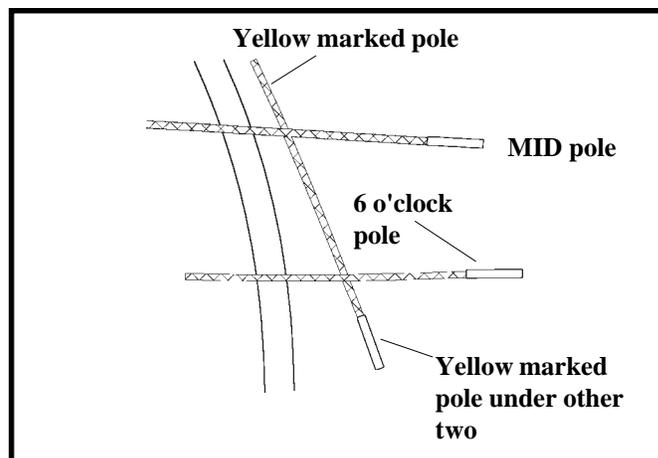
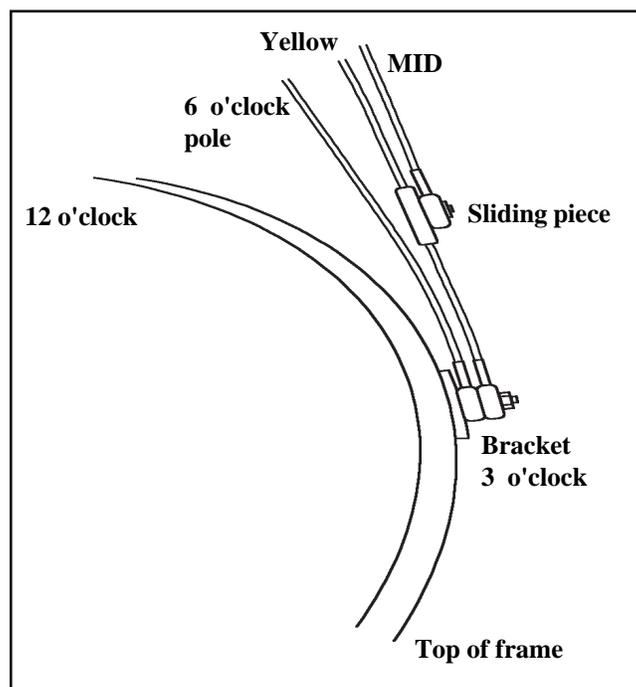

FIGURE 8
FIGURE 9
**Look forward to Figures 8, 9, 10** before attaching the pole ends to their respective pole dowels which are on the brackets and sliding pieces. Try to see where the three pole ends on each side will be attached and how the final pole attachment assembly will look. This looking forward and attempting to see the final "picture" should help over the next few steps.
Take the ends of of the 12 o'clock - yellow marked pole and place it under the other two poles (see Fig. 8) and attach it to the **outside, yellow (gold) anodized**, pole dowel on the bracket (see Fig. 9 - next page). You will have to slightly bow each of the poles to make them fit onto the dowels. Be careful to not let the pole(s) spring out during this operation. **Attaching the yellow marked pole to the yellow (gold) anodized outside dowel is very important.**
You should now have all three poles attached to what is now called the **combination pole bracket assembly** (main bracket with two poles attached - both outside poles - 12 o'clock/yellow marked to outside, 6 o'clock to inside, MID pole attached to the sliding piece on 12 o'clock/yellow marked pole) - (see Fig. 9).